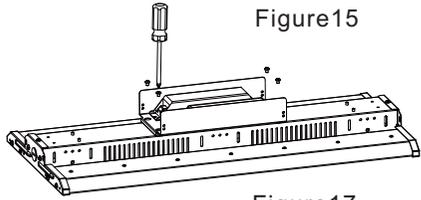

Figure17
Step2. Open the cover of the backup driver box, install the backup driver box at the corresponding position on the back of the fixture (Figure 17), connect the wires correspondingly according to the marking instructions on the wire, mount the buttons and indicators of backup driver on the front cover of the fixture (Figure 18), then fix the cover to the fixture.